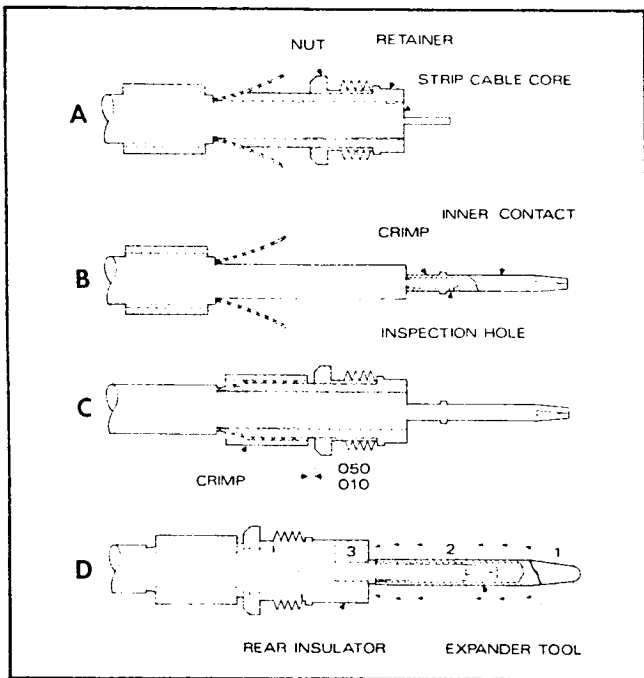
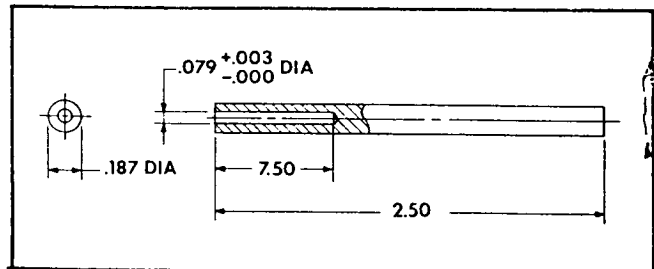

Figure 3-1. Contact Assembly Steps
Figure 3-3. Push Rod Dimensions
b. Strip cable core (inside insulation) flush with end of retainer, exposing cable center conductor. (A, Figure 3-1.)
e. Crimp inner contact using crimp tool and positioner listed in Table 1 (B, Figure 3-1).
g. Bring ferrule forward over braid and crimp braid between ferrule and retainer using crimp tool and die listed in Table 1. Nut must rotate freely after crimping ferrule. (C, Figure 3-1).
i. Slide expander over inner contact. Using a Bendix P/N 11-10135 Push Rod found in Bendix Coaxial Bushing Installation Kit P/N 11-10134, or locally fabricated equivalent (See Figure 3-3 for dimensional data), push the rear insulator into place until it seats between retainer end and inner contact shoulder (D, Figure 3-1).